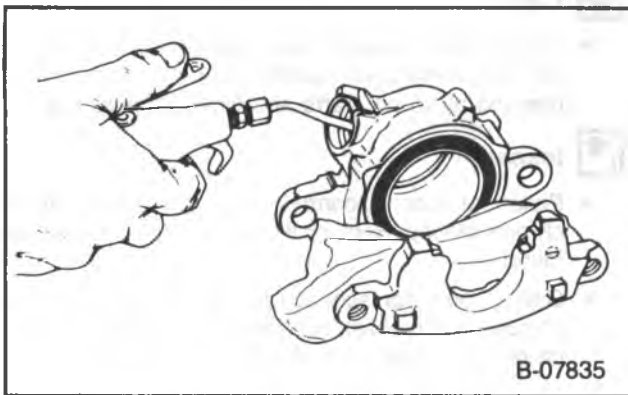

Figure 17 — Removing Caliper Piston
1. Piston (22) by directing compressed air into the caliper fluid inlet (figure 17).
2. Boot (23).
3. Piston seal (21).
4. Bleeder valve (20).